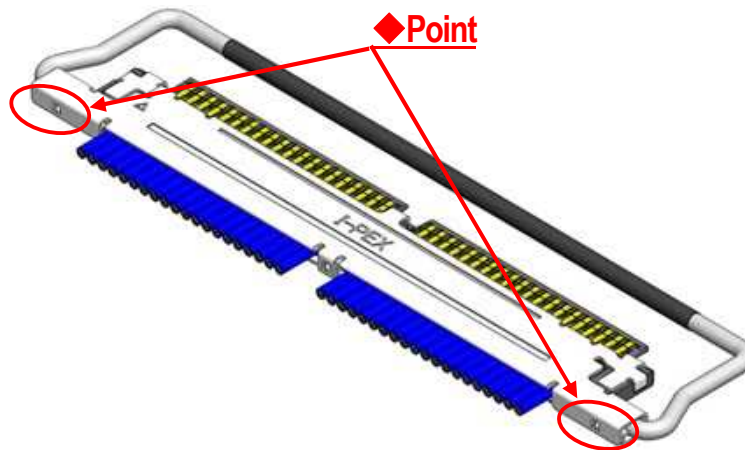

Fig.9 Soldering of SHELL-A and SHELL-B
- ④ SHELL-A and SHELL-B are soldered with the soldering iron at all designated points. (Fig.9 ◆point)